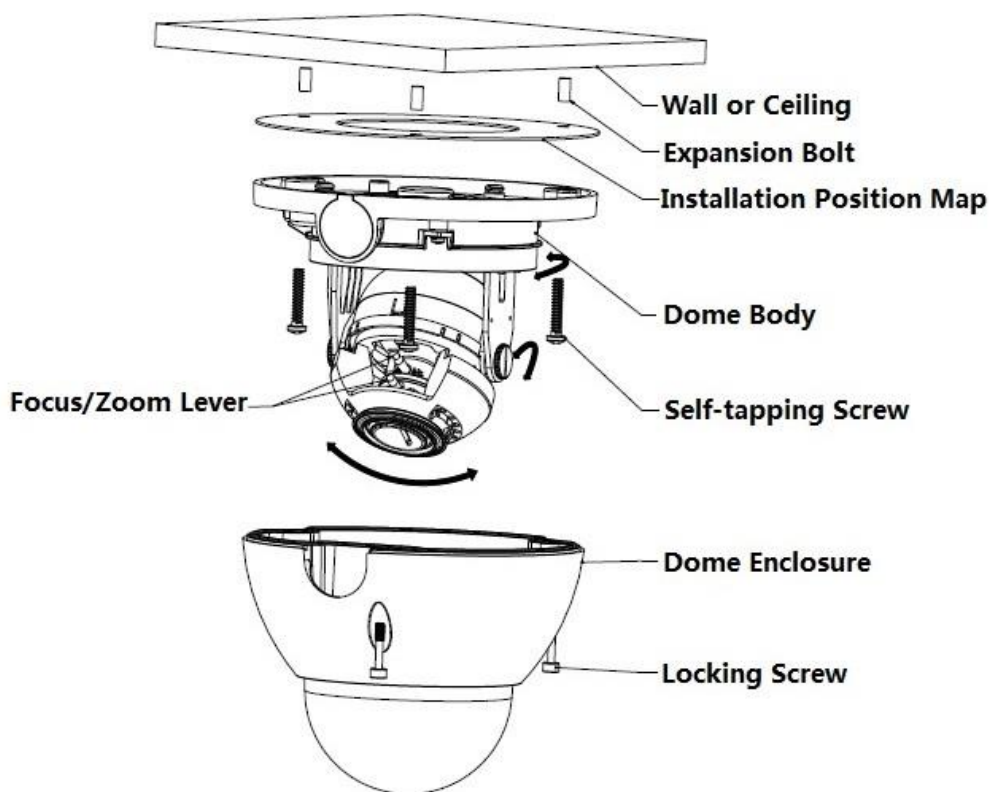

Figure 3-1 **Note:**
- If it is the motorized vari-focal camera, you can adjust the lens zoom and focus on the back-end HCVR device to make image clear, and then adjust the lens angle according to the direction shown in Figure 3-1. Tighten the screws to fix the lens after it is adjusted to a proper angle.
- If it is the manual vari-focal camera, you can use focus/zoom lever to adjust lens focal length to make image and tighten the lever after it displays image on the back-end HCVR device, then adjust the lens angle according to the direction shown in Figure 3-1. Tighten the screws to fix the lens after it is adjusted to a proper angle.